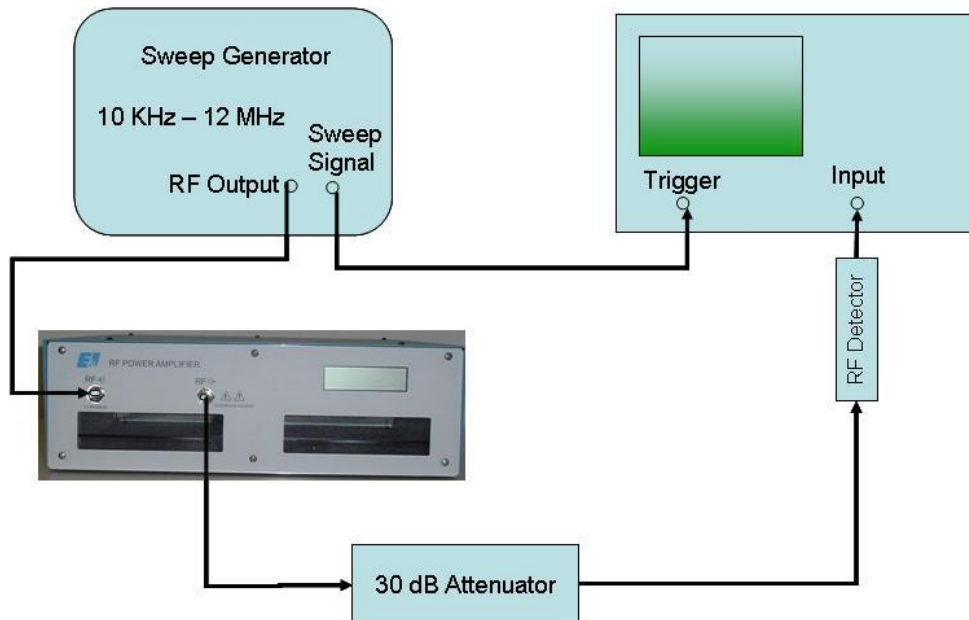

Figure 4-1. Gain Measurement
2. Connect the equipment as shown in Figure 4-1, then proceed as follows:
- g) Reconnect the 2200L into the test set-up of Figure 4-1.